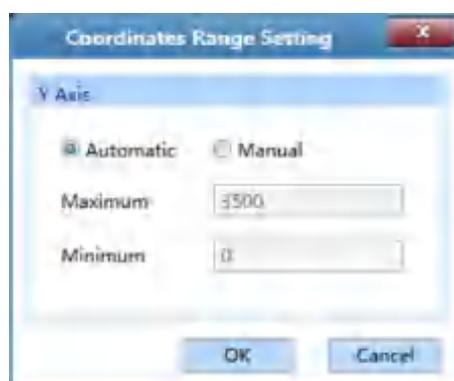

Figure D-6.1a. Run Monitoring interface - Coordinate Range Setting
- ▶ <  **Y-axis Coordinate Adjustment** >: user can adjust the Y-axis coordinate of the real-time fluorescence monitoring diagram. Please click <  **Y-axis Coordinate Adjustment** > icon and the coordinate range setting box will pop up automatically, as shown in figure D-6.1a. User can select **Automatic** or **Manual** option in the coordinate range setting box to set the Y-axis coordinate. If the **Automatic** option is selected, the application software will automatically adjust the Y-axis coordinate according to the detected fluorescence value; if the **Manual** option is selected, user can manually enter or use  and  keys to set the maximum and minimum value of Y-axis coordinate range in the **Maximum** and **Minimum** input box and click < **OK** > to confirm.